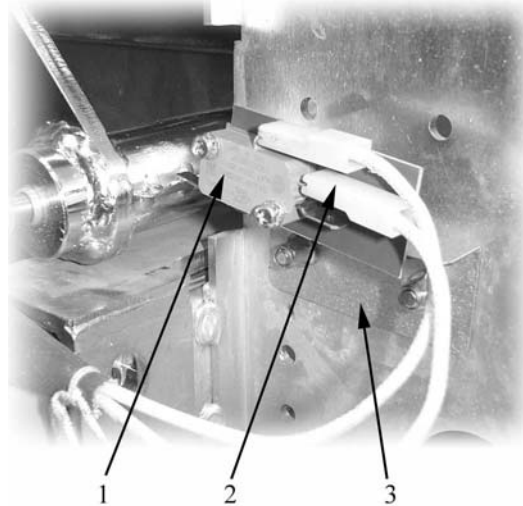

Fig. 20
- disconnect the electrical connections of the micro switch (item 2 in Fig. 20);
- remove the micro switch (item 1 in Fig. 20);